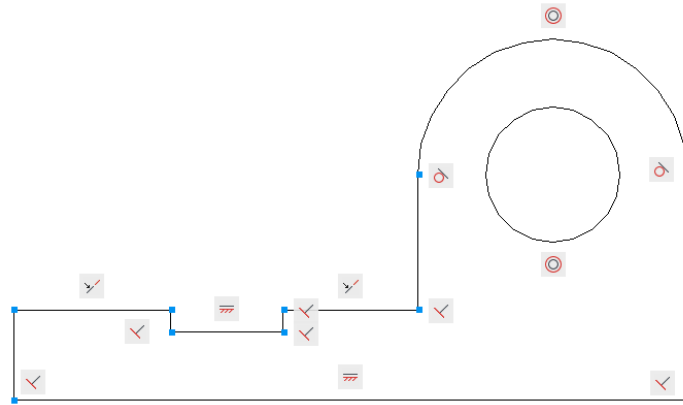

Figure 1-30 Sketch with all constraints applied
2. Make sure that you have applied all the required geometrical constraints, as shown in Figure 1-30.